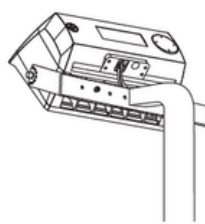

Figure 13
Step 2: Knock the expansion bolts into the wall. (Figure 13)